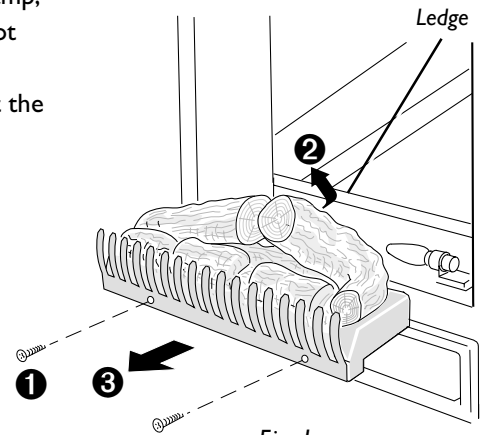

Fig. 1
- 1.1 To gain access to the lamps, open the firebox door, then remove the two screws ❶ securing the fuel effect logs and grate assembly (see Fig. 1). Lift the fuel effect up slightly to clear the ledge at the base of the glass viewing screen, tilt one end up first ❷ and then lift the fuel effect out of the firebox ❸.
- 1.3 Refit the fuel effect, ensuring that the rear edge locates on the ledge at the base of the glass viewing screen (see Fig. 1)